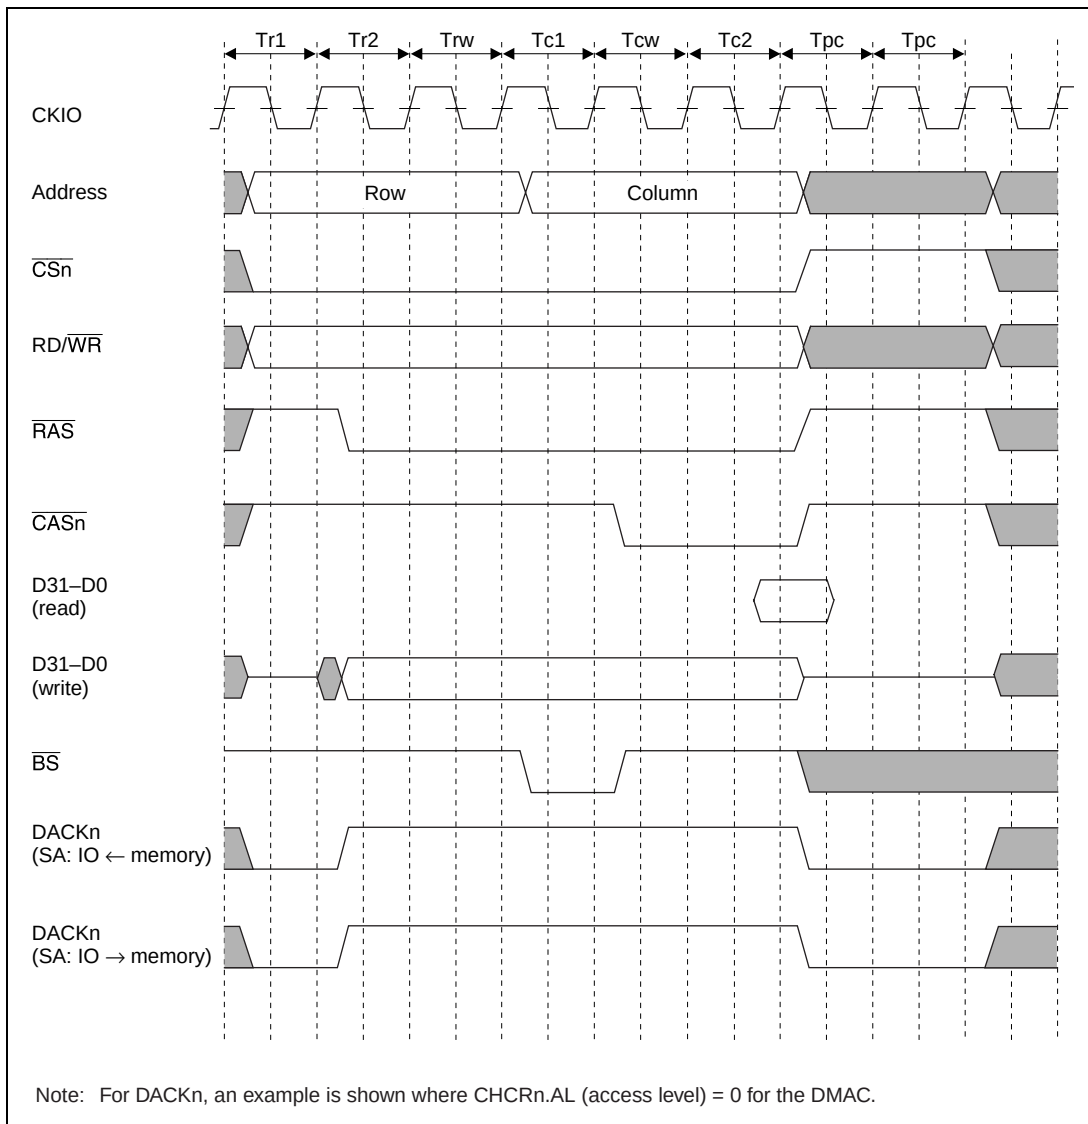

**Figure 13.15 DRAM Wait State Timing**
**Wait State Control:** As the clock frequency increases, it becomes impossible to complete all states in one cycle as in basic access. Therefore, provision is made for state extension by using the setting bits in WCR2 and MCR. The timing with state extension using these settings is shown in figure 13.15. Additional Tpc cycles (cycles used to secure the  $\overline{\text{RAS}}$  precharge time) can be inserted by means of the TPC bit in MCR, giving from 1 to 7 cycles. The number of cycles from  $\overline{\text{RAS}}$  assertion to  $\overline{\text{CAS}}$  assertion can be set to between 2 and 5 by inserting Trw cycles by means of the RCD bit in MCR. Also, the number of cycles from  $\overline{\text{CAS}}$  assertion to the end of the access can be varied between 1 and 16 according to the setting of A3W2 to A3W0 in WCR2.